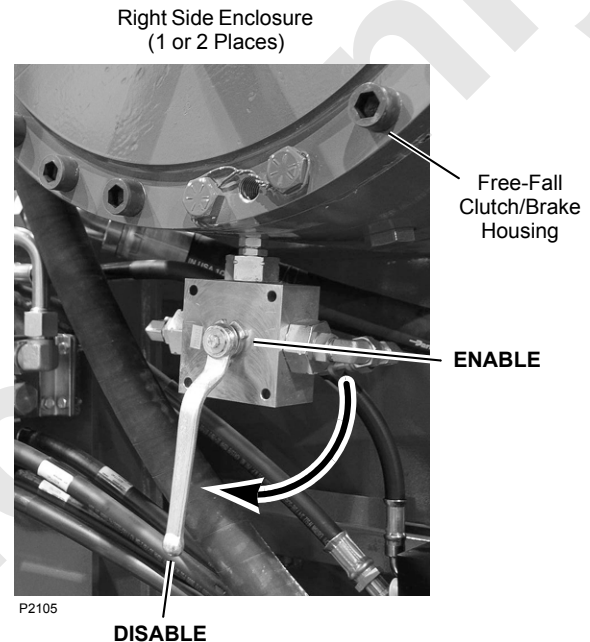

FIGURE 3-14
1. Disable free fall for rear drum by moving valve handle to DISABLE (down) position as shown in Figure 3-14. To enable free fall when luffing jib attachment is removed, move valve handle to ENABLE (up) position.
1. If equipped with free fall disable valves, handles must be in ENABLE position (see Figure 3-14), **EXCEPT when the rear drum is configured for operation with luffing jib.**